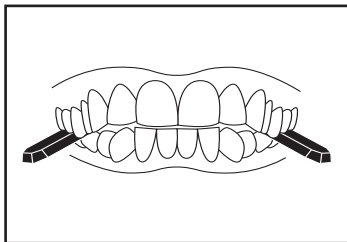

Fig. 30.1 Exercise Bite Tabs positioned between teeth.
2. Place one Exercise Bite Tab between the teeth on each side of the patient's mouth. See figure 30.1 on page 30.